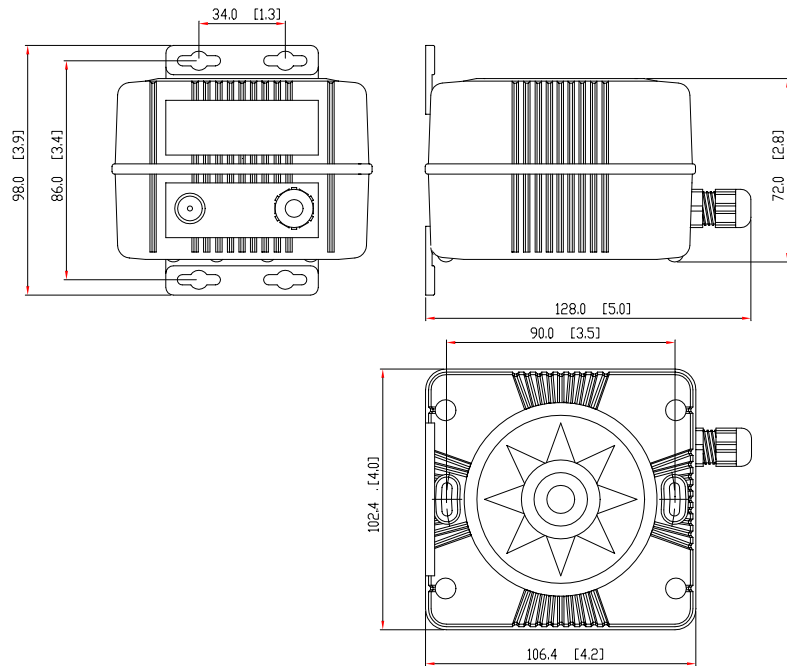

Figure 3-5 RC25/RFC35 Rate Compass and CDI35 Course Detector Interface Dimensions
- Dimensions: See Figure 3-5
Dimensions: See Figure 3-5